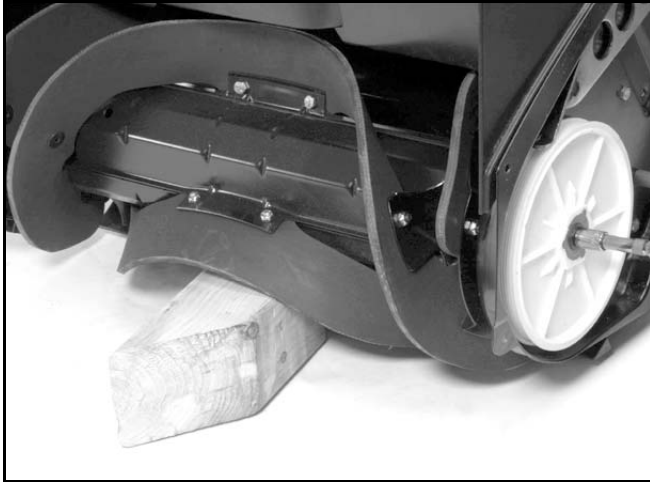
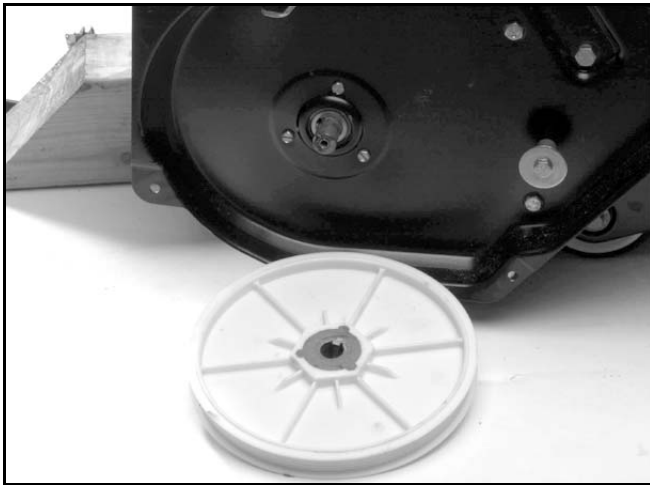

Figure 42
Figure 43
4. To remove the rotor pulley, it will be necessary to hold the rotor steady. A block of wood can be used to stop the rotor from turning (Figure 42), allowing the capscrew to be removed from the rotor pulley (Figure 43). The rotor pulley is removed by pulling straight off.